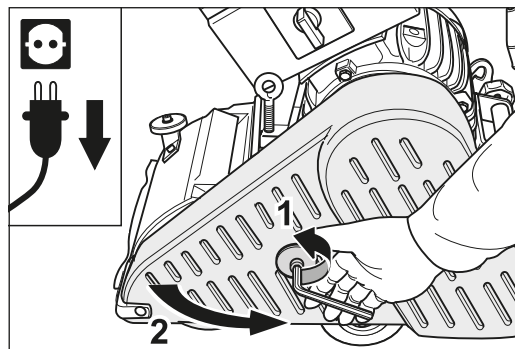

Fig. 2 Pull the power plug out of the socket and open the belt guard.
- 3 Open the belt guard (fig. 2).